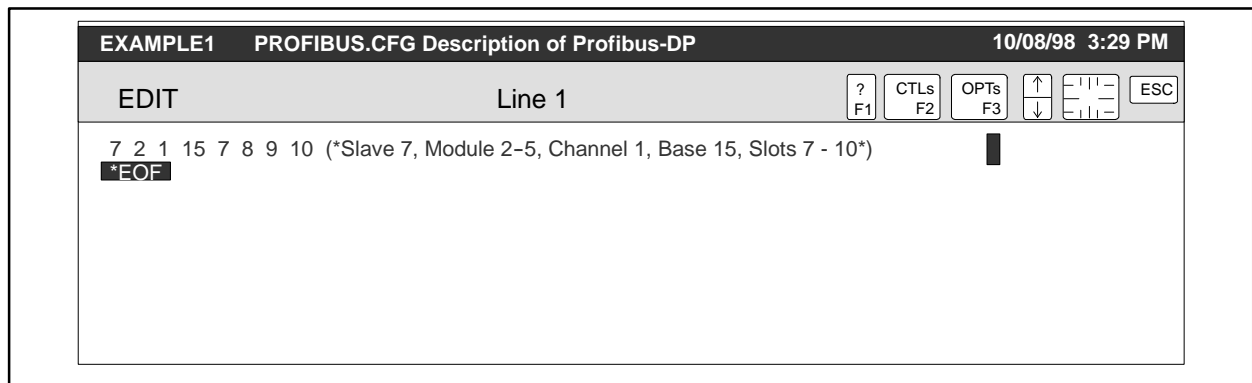

Figure 9-15 Example PROFIBUS.CFG File
4. Edit the PROFIBUS configuration file, following the guidelines on page 9-22. Figure 9-15 shows an example.
In Figure 9-15, the I/O Module configured in COM PROFIBUS for Slave 7, Modules 2-5 will be linked to Slots 7, 8, 9, and 10 on Channel 1, Base 15 in the Module Table of APT.